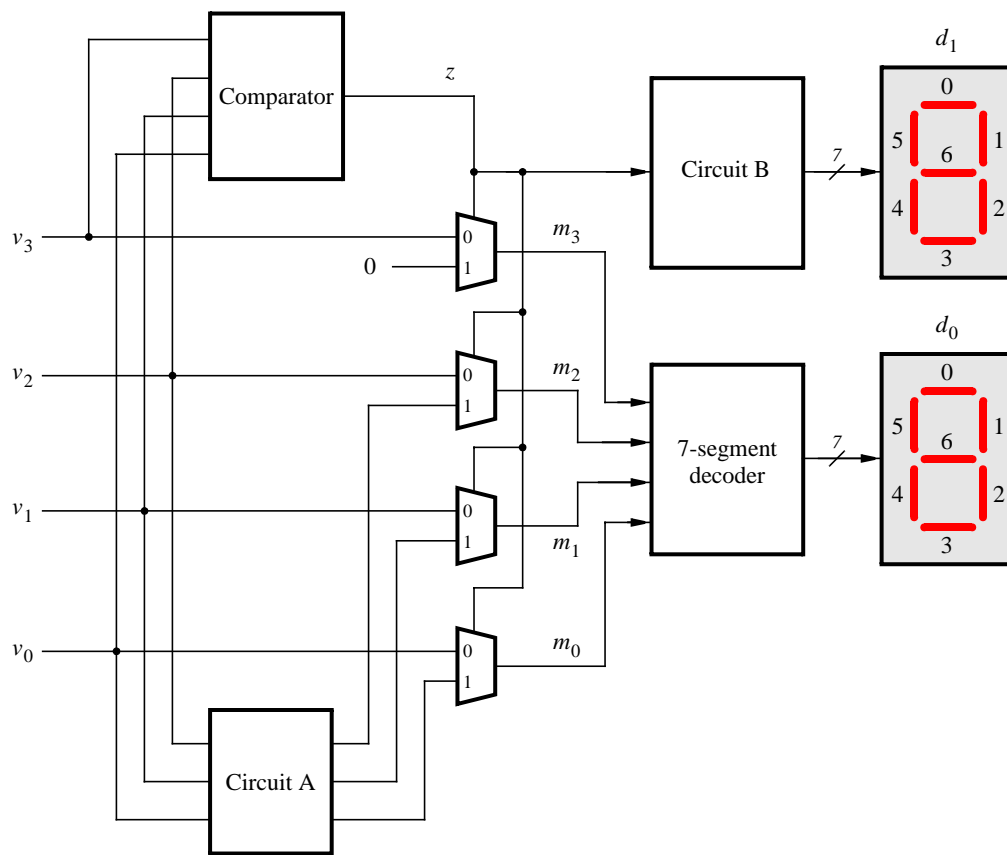

Figure 1. Partial design of the binary-to-decimal conversion circuit.
You are to design a circuit that converts a four-bit binary number  $V = v_3v_2v_1v_0$  into its two-digit decimal equivalent  $D = d_1d_0$ . Table 1 shows the required output values. A partial design of this circuit is given in Figure 1. It includes a comparator that checks when the value of  $V$  is greater than 9, and uses the output of this comparator in the control of the 7-segment displays. You are to complete the design of this circuit by creating a VHDL entity which includes the comparator, multiplexers, and circuit *A* (do not include circuit *B* or the 7-segment decoder at this point). Your VHDL entity should have the four-bit input  $V$ , the four-bit output  $M$  and the output  $z$ . The intent of this exercise is to use simple VHDL assignment statements to specify the required logic functions using Boolean expressions. Your VHDL code should not include any IF-ELSE, CASE, or similar statements.
3. Augment your VHDL code to include circuit B in Figure 1 as well as the 7-segment decoder. Change the inputs and outputs of your code to use switches  $SW_{3-0}$  on the DE2 board to represent the binary number  $V$ , and the displays  $HEX1$  and  $HEX0$  to show the values of decimal digits  $d_1$  and  $d_0$ . Make sure to include in your project the required pin assignments for the DE2 board.